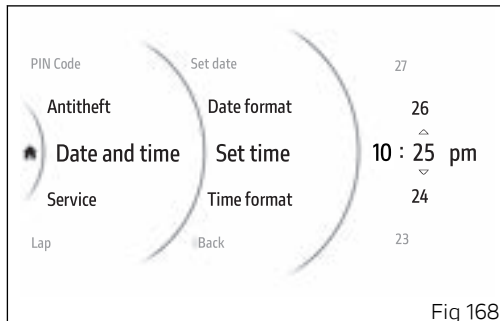

Fig 168
The minute number becomes selectable and is displayed with two arrows placed above and below it; the available values are also displayed (Fig 168). Use buttons (1) and (2) to scroll and select the desired value. Press ENTER (3) to confirm and move on to the AM/PM selection.